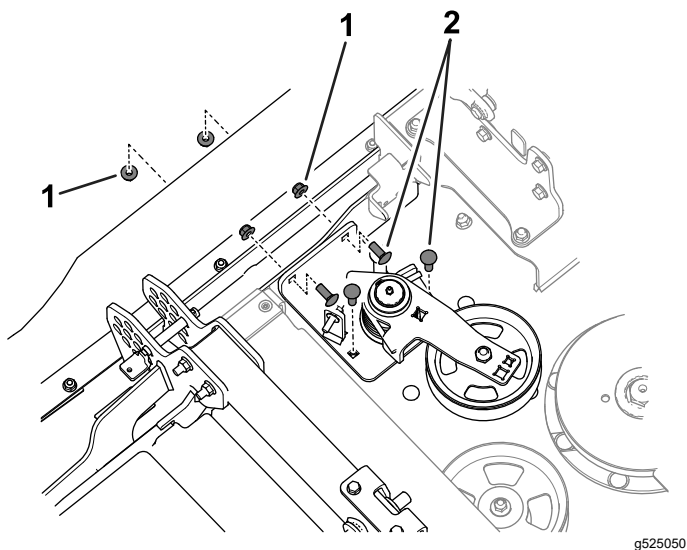

Figure 6
6. Use 2 carriage bolts (3/8 x 1 inch), 2 carriage bolts (3/8 x 1-1/4 inches), and 4 flange nuts (3/8 inch) to secure the tensioner assembly to the cutting unit (Figure 6).